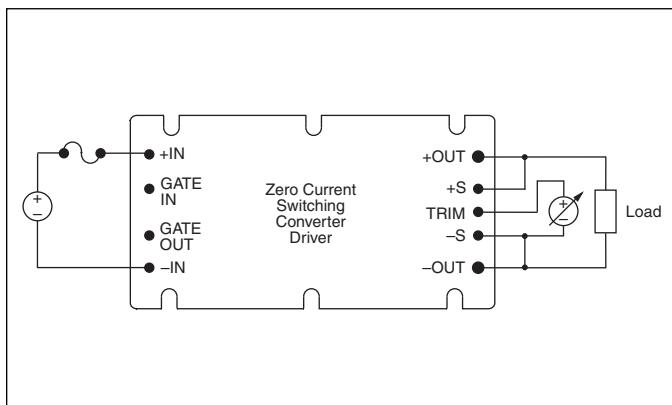

Figure 7–2 — Output voltage programming
**Negative Inputs (with positive ground).** (Figure 7–3) Vicor modules have isolated inputs and outputs making negative input configurations easy. Fusing should always be placed in the positive lead.